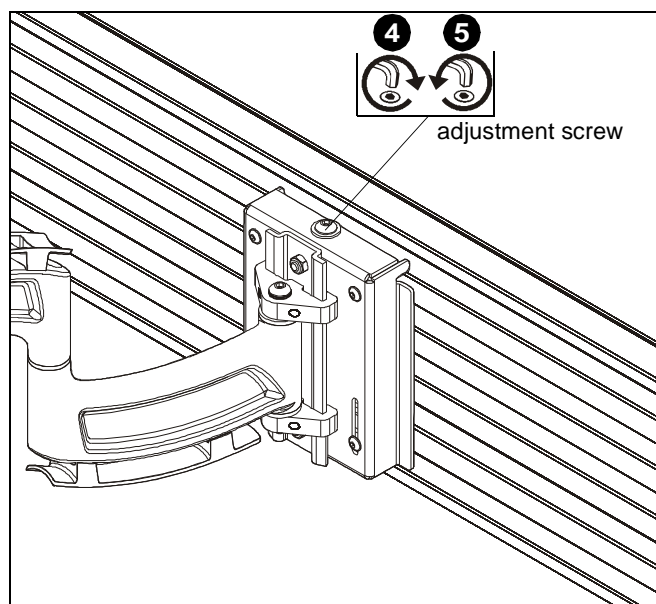

Figure 2
4. Using 3/16" hex key (L), turn adjustment screw clockwise to lower mounting plate until it is able to easily slide into wall track. (See Figure 2)
5. Using 3/16" hex key (L), turn adjustment screw counter-clockwise to raise lower mounting plate until bracket is fully secured to slat wall. (See Figure 2)